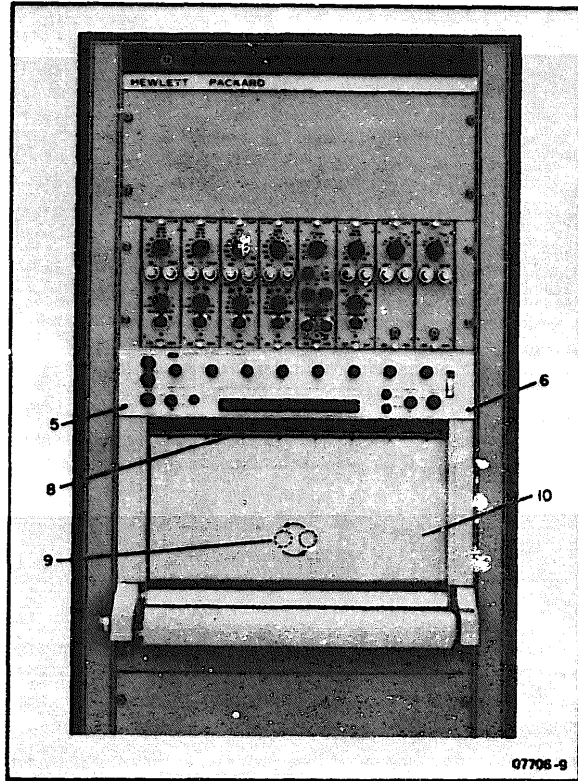

Figure 2-3. Shipping Retainer Locations, Front
b. At the front of cabinet, remove two copper shipping screws which hold Recorder to cabinet (Figure 2-3, 5, 6).
c. Pull up two lock levers (below Recorder panel) and pull out Recorder until it locks in place. Remove four shipping screws, two each side, which hold writing platen during shipment (Figure 2-3, 7). After removal, push Recorder back into place.
- b. Open viewing window and remove tape which holds stylus guard retainer down on platen table (Figure 2-3, 8). Leave window open.
- c. Pull out on stylus lift lever (left side of platen table, center), hold platen table with one hand, lift up and out on table lock lever (above stylus lift lever), and lower platen table. Take out spool of Permapaper[®] and look in through paper compartment to identify two chrome plug buttons Figure 2-3, 9. Pry out right button to release motor chain, and interchange with left button. Replace Permapaper[®] or install new roll (see paper loading instructions in Figure 2-3, 4).